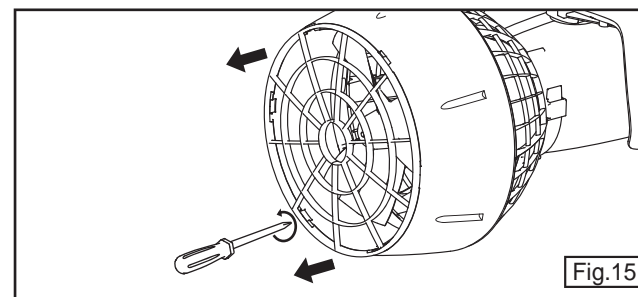

Fig.15
4. Unscrew the six rear grille screws as shown in figure 15.